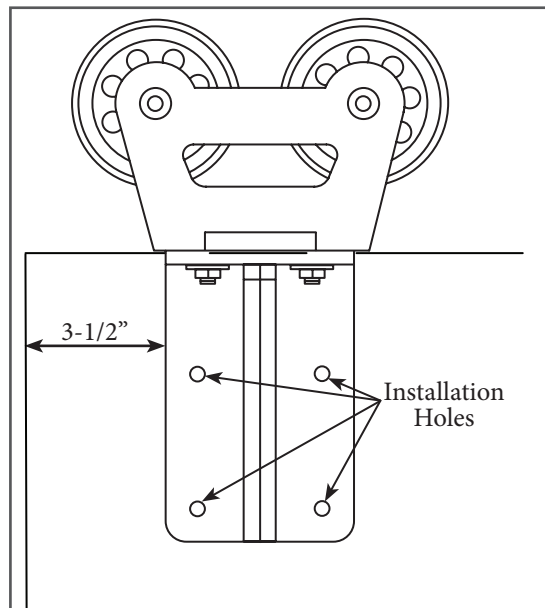

Figure 2
3. Ensure the placement of the hanger base is 3-1/2" from the edge of the door (Figure 2).
4. Mark the center of each installation hole with a pencil. (Figure 2).